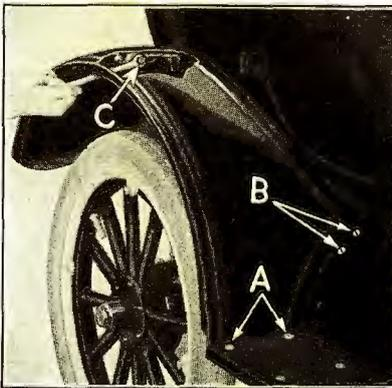

Fig. 5
- (a) Run out the two running board to rear fender bolts and nuts (See "A" Fig. 5).